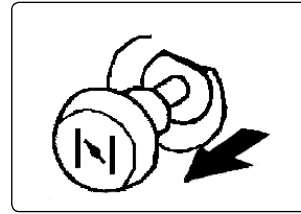

fig.9
6.3.5. Turn the choke knob fully out fig.9.